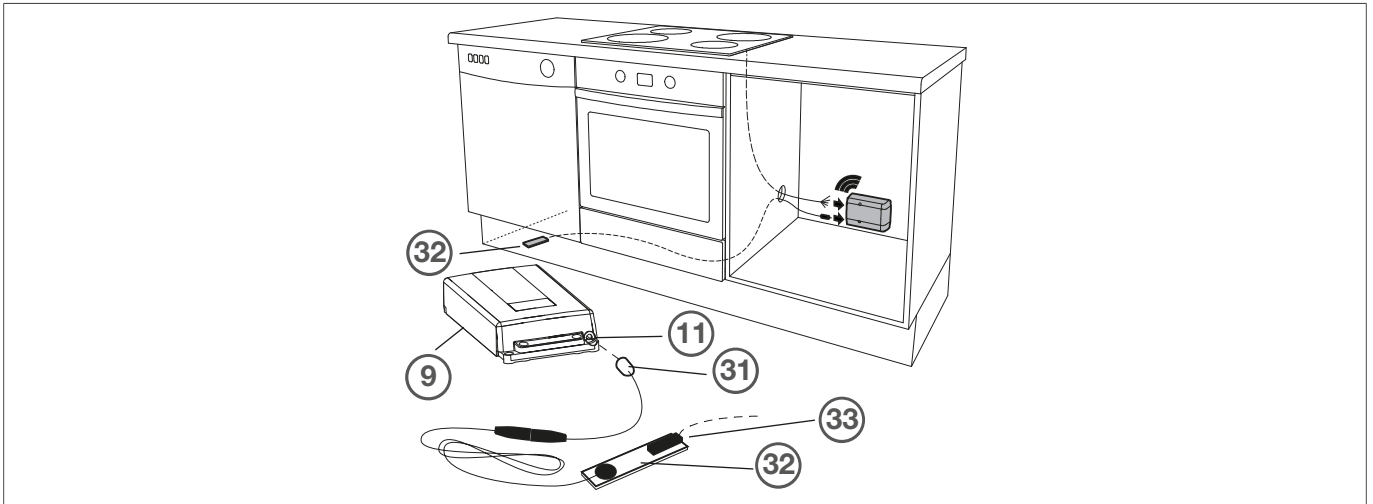

Fig. 9: Mounting of water leakage sensor
- ① Insert the plug of the leakage sensor (31) into the jack on the power control unit (11).
- ② Place the water leakage sensor (32) under the dishwasher (Fig. 9).
- ③ Optional: Insert additional water leakage sensor into the plug (33) of the front sensor (31).